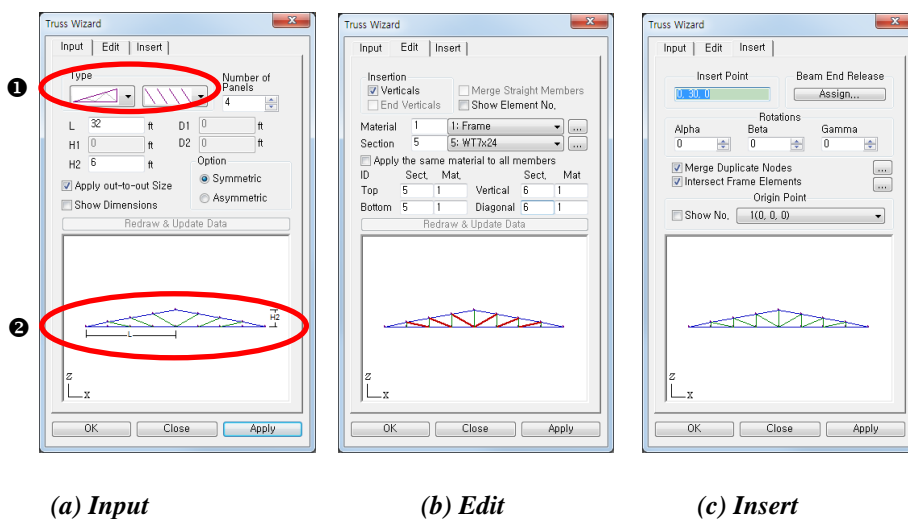

Figure 2.5 Truss Wizard
☞ Check (✓) Show Dimensions. Then the screen displays the values of L and H2 (Fig.2.5(a)-☞).
3. Select the roof truss shape in the *Type* of the *Input* tab (Fig.2.5(a)-☞).